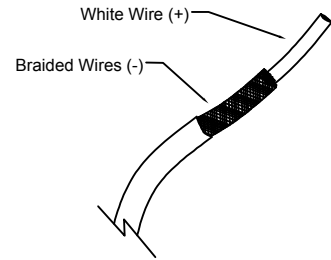

FIGURE-02
- Strip the coaxial cable about 2", exposing 2 wires (braided wire & white wire). See FIGURE-02.